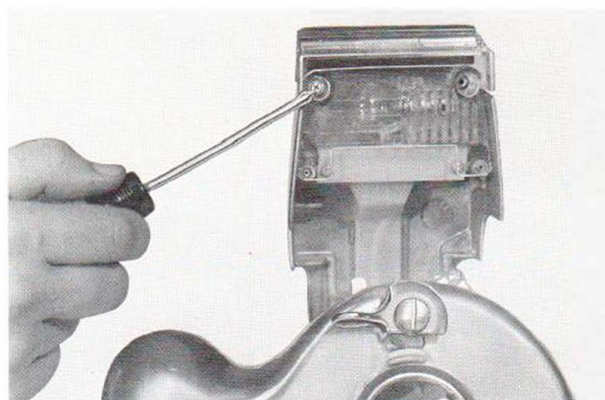

Figure 1-10. Removing headlight lens and socket
(1) Lift headlight cap (41, fig. 1-1) and remove two headlight cap lens screws (36) as shown in figure 1-10. Remove lens from terminal block (46, fig. 1-1).
(2) To remove bulb, push it into the socket, rotate it about 1/4 turn counterclockwise, and pull it out. Test headlight operation with a good bulb before proceeding.
b. Socket testing. Corroded, bent, or broken contacts in the socket will prevent proper headlight operation. Clean and align contacts as necessary and recheck operation. If socket is damaged or contacts are defective, replace lens and socket assembly (48) as a unit.
c. Socket replacement. Fasten the headlight lens to headlight cap (41) with two screws (36).
(2) Slide the headlight wires (43) from the slot on the back of the motor bell housing (7).
(3) Remove the headlight lens (48) and terminal block hold down (53) by removing screws (36) as shown in figure 1-10. The terminal block (46, fig. 1-1) will fall free, and may be removed easily from the hinge pin (42) by gently prying up with a small screwdriver.